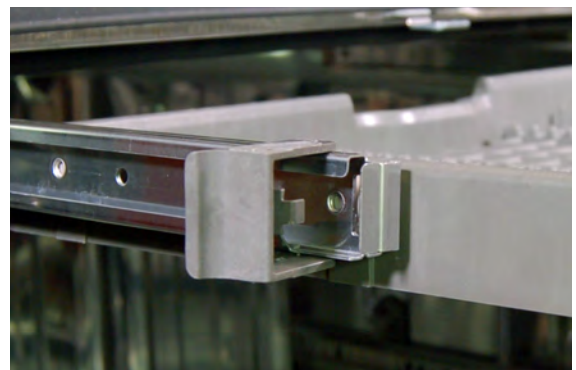

Figure 4
2. Rotate the rack stops outward (see Figure 4)